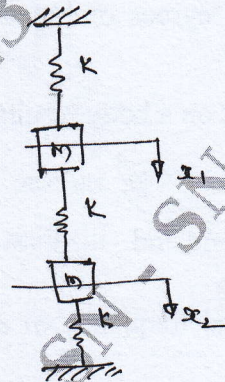

Fig.Q.6(b)
- b. For a spring – mass system shown in Fig.Q.6(b), if the mass ' m_1 ' is displaced 20mm from its static equilibrium position and released, determine the resulting displacement $x_1(t)$ and $x_2(t)$ of the masses. (14 Marks)